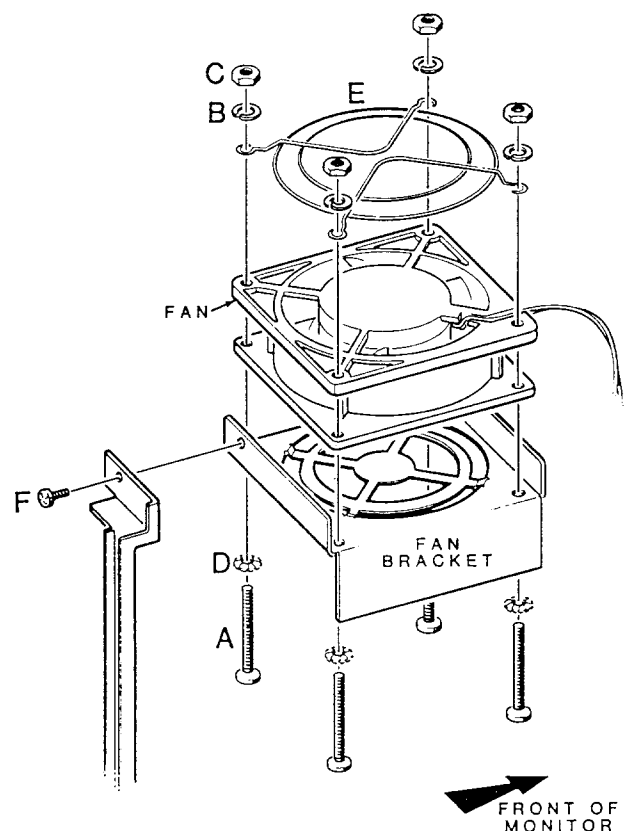

Figure 3-33. Fan Screws
3. Refer to Figure 3-33 and remove the four 1.75-inch phillips machine screws labeled A, the lockwashers labeled B, the nuts labeled C, and the star washers labeled D that secure the fan to the fan bracket. During reassembly, be sure that the fan guard labeled E is positioned with its screw holes flat against the fan housing.
4. Remove the 3/8-inch phillips thread-forming screw labeled F in Figure 3-33. Lift the fan out of the fan bracket and set it to one side. During reassembly, be sure to connect the red fan cable wire to the positive (+) fan wire and insulate the cable splices with tape or heat-shrink tubing.